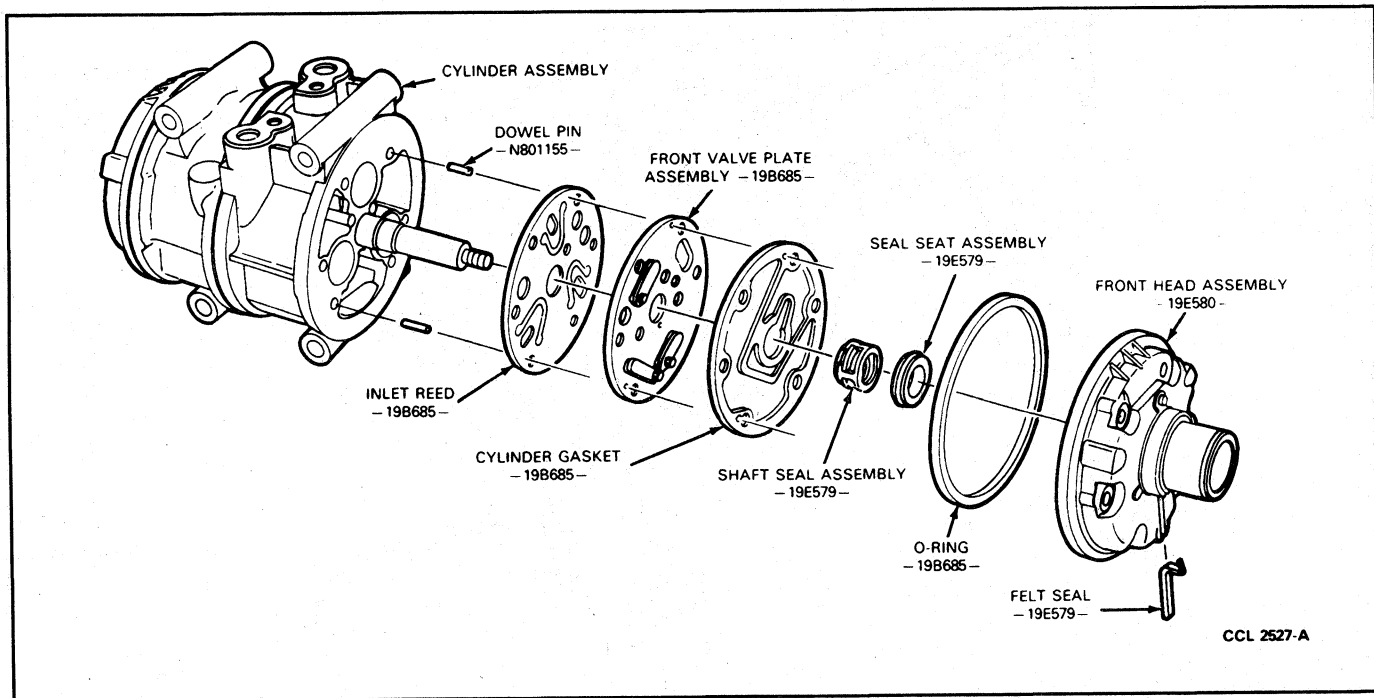

FIG. 15 Front Head and Valve Plate—Disassembled
10. Remove shaft seal assembly and felt seal from the head (Fig. 15).
2. Install the two dowel pins in the dowel pin holes of the cylinder assembly (Fig. 15).
8. Install a new lubricated O-ring in O-ring groove of the front head (Fig. 15).
17. Pull the front head from compressor assembly. The valve plate assembly, inlet reed and shaft seal assembly will come off with the front head (Fig. 15).